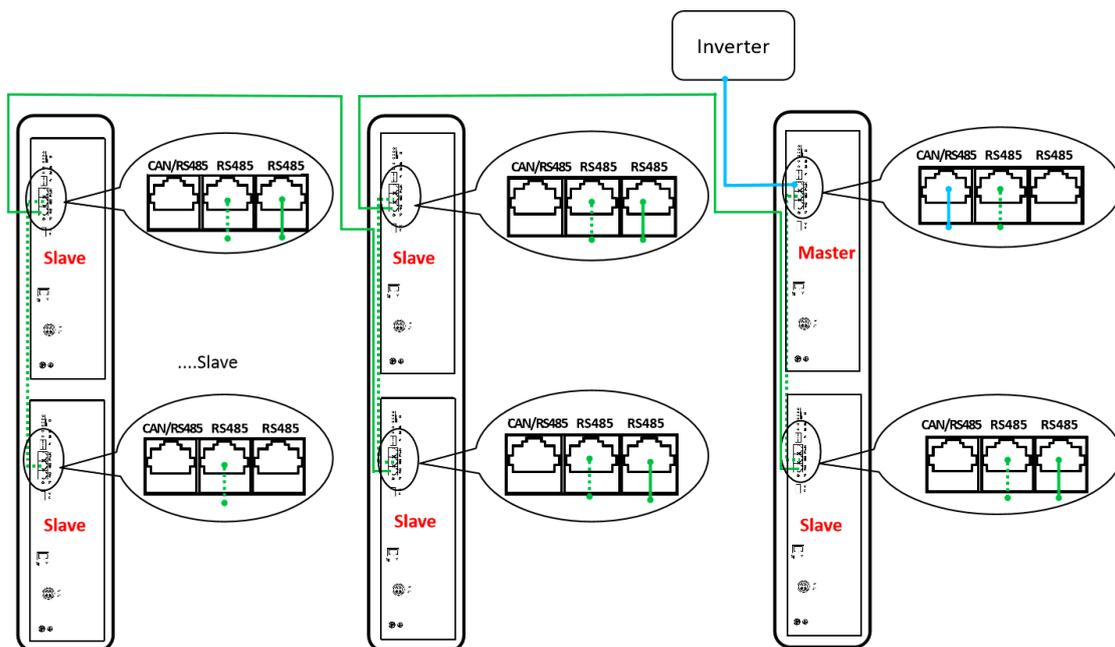
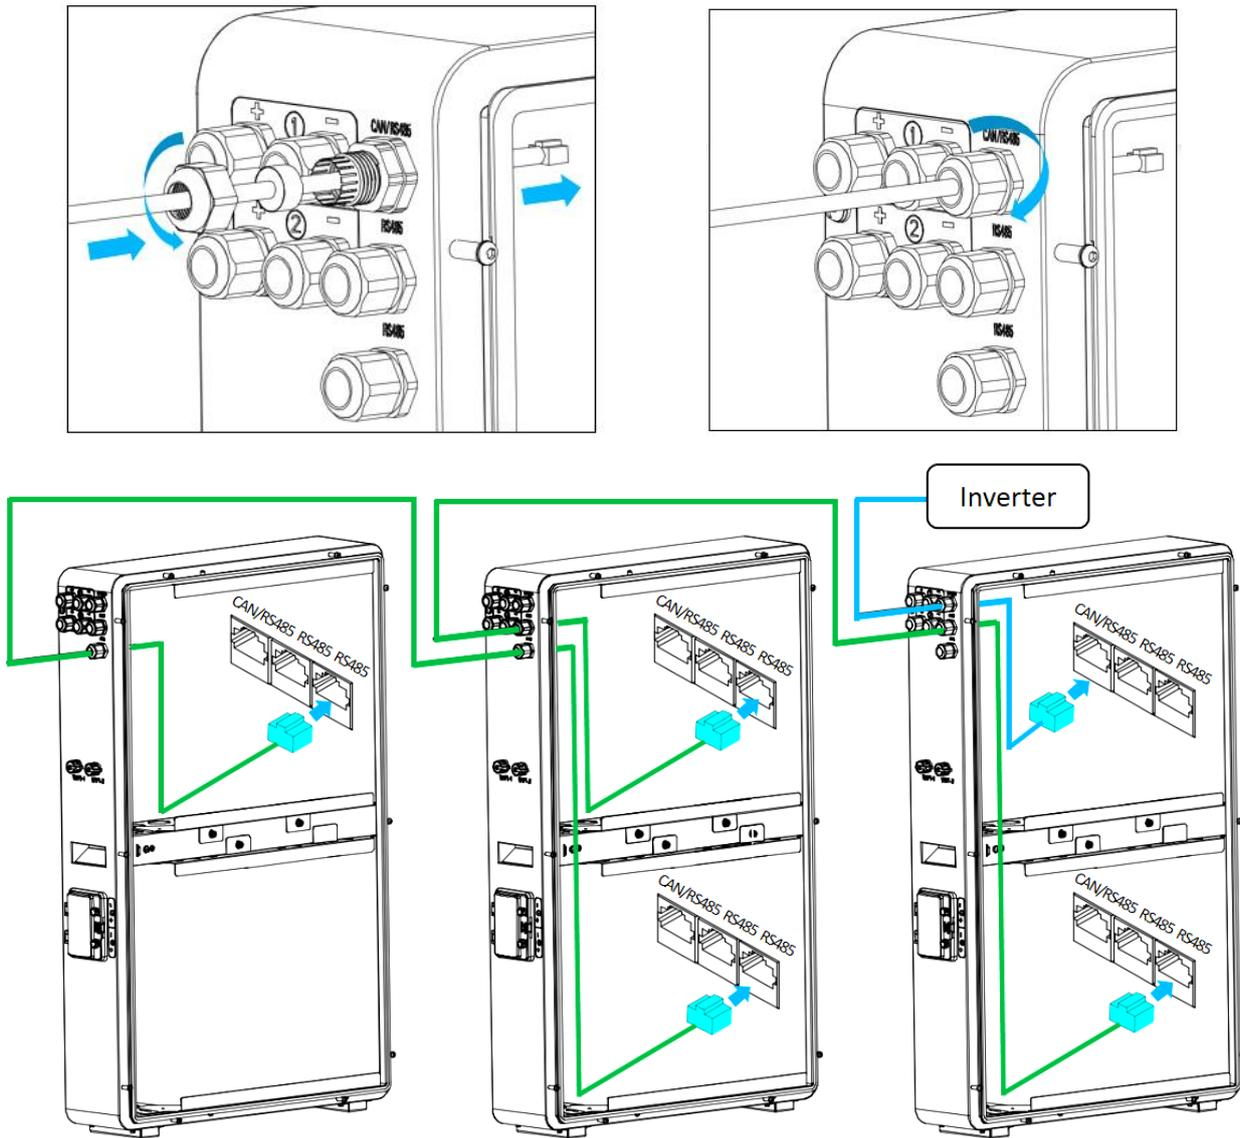

Fig. 5.3.1 Communication cable connection-3 Parallel(30kWh)
Fig.5.3.2 Communication cable connection
4. Plug the communication cable to the corresponding RJ45 port, refer to Fig. 5.3.1 and Fig. 5.3.2.